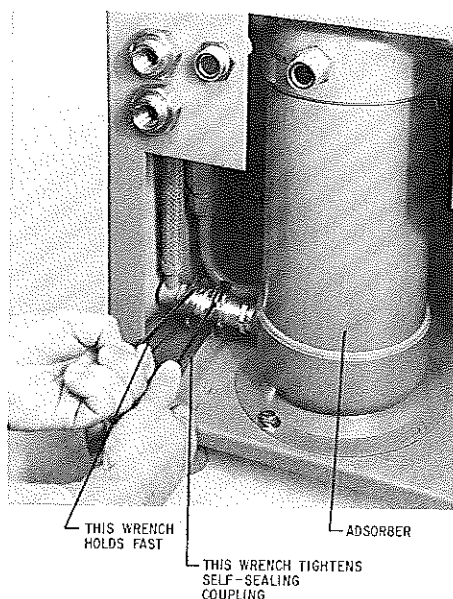

Figure 4.2 Connecting self-sealing couplings
Make sure to hold fast on the left coupling nut while tightening the right coupling nut, as shown in Figure 4.2.
- c. Using the two wrenches supplied in the Installation and Scheduled Maintenance Tool Kit, make the connection quickly to minimize minor gas leakage. See Figure 4.2.